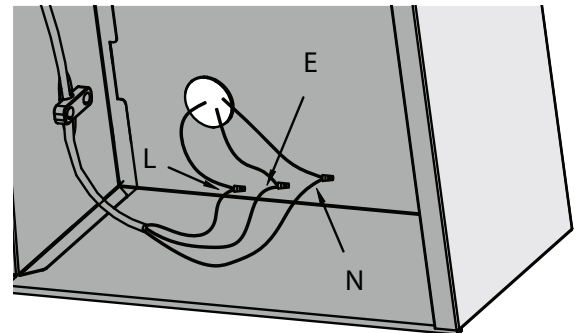

Figure 8
- Connect BLACK to BLACK, WHITE to WHITE and GREEN to GREEN (see Figure 8).